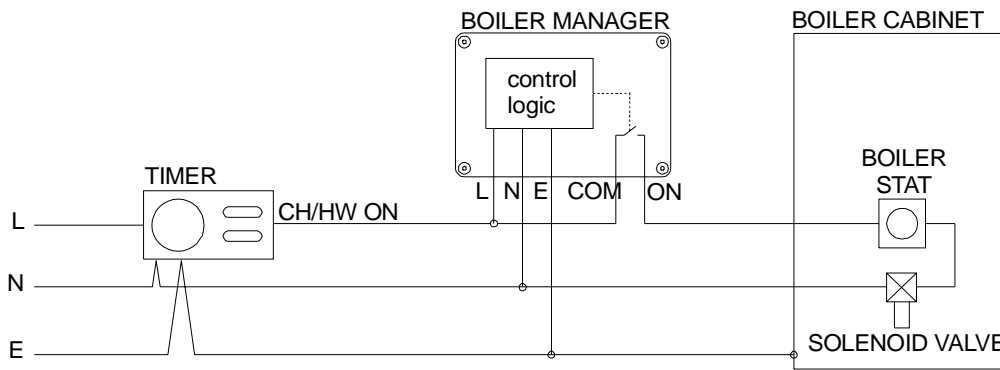

FIGURE 3: WIRING DIAGRAM (INLINE CONFIGURATION)
- If the existing control system has a power connection directly from the timer/programmer to the gas valve/boilerstat inside the boiler cabinet and nothing else once in the cabinet, the Boiler Manager can be installed 'in-line'. See the wiring diagram in Figure 3.